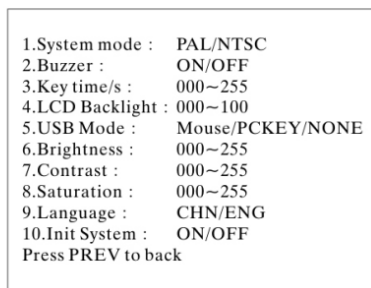

figure4.4
4.4 System Setting (can select the key4) as figure 4.4